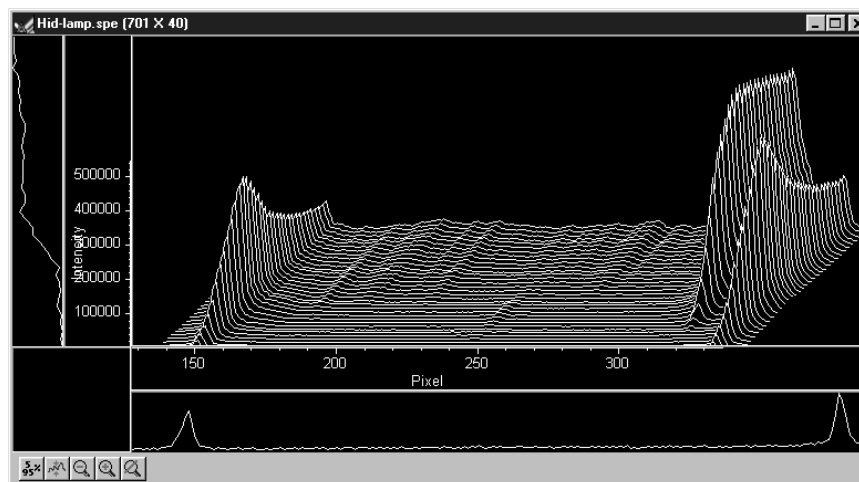

Figure 82. Hid-lamp.spe 3D graph expanded to show defined region
2. Click on  (Zoom In). The view will change so that only the selected region is displayed as shown in Figure 82.